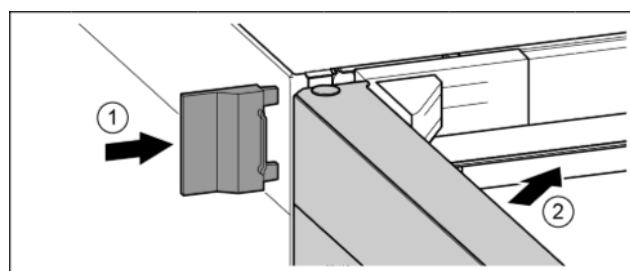

Fig. 17
- Push the external cover on. Fig. 17 (1)
- Close the upper door. Fig. 17 (2)